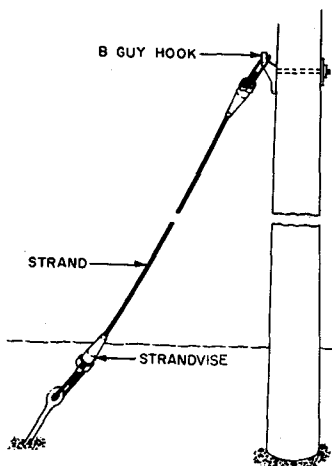

Fig. 24—Guy Assembled Hand-Tight
- (b) Insert the end of the strand in the pilot cup, remove the tape, and push the strand through the cartridge until the guy is handtight. (See Fig. 24.)